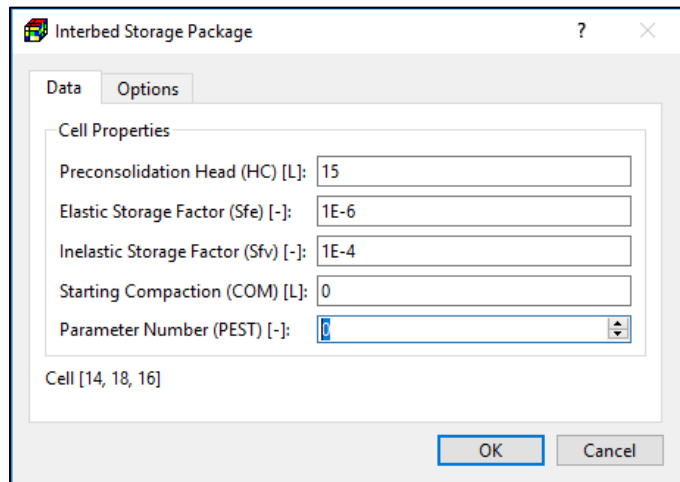

Figure 56. The Interbed Storage Package dialog box
1. **All input methods:** Figure 56 shows the dialog box for specifying cell, vertex, or polygon properties.
- **Preconsolidation Head (HC) or Critical Head [L]:**